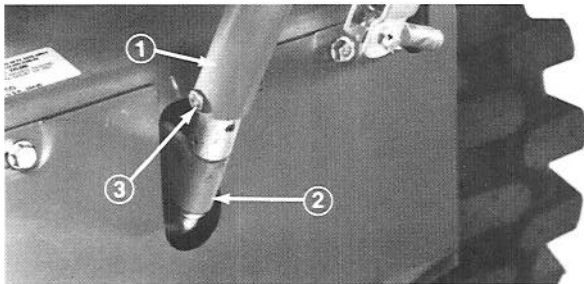
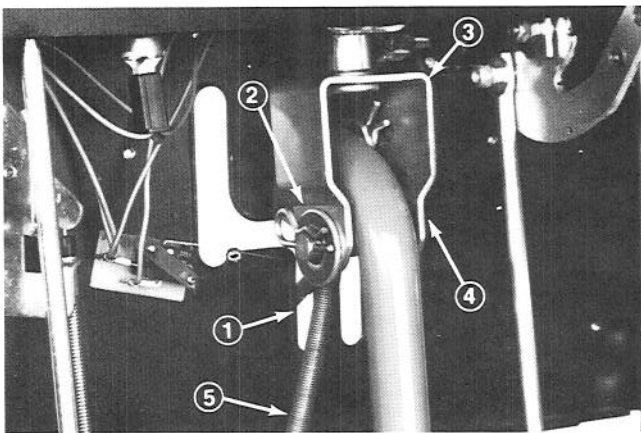
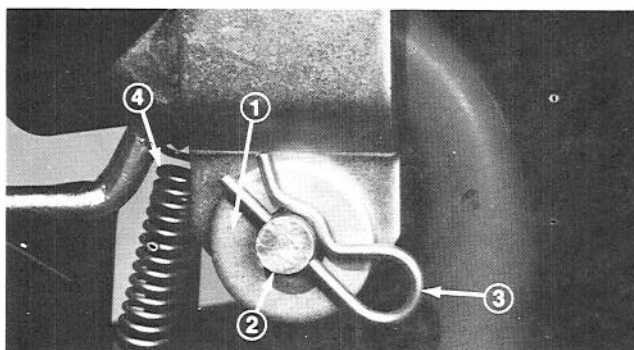

Figure 9
Figure 10
Figure 11
2. From back side, slide control rod over lower tube (Fig. 9) and wheel drive control lever through 1st gear slot in control panel (Fig. 10). Hook tension spring to hold in wheel drive control pivot. (Fig. 10). Next, line up holes in wheel drive control pivot with U-shaped pivot bracket and secure parts in place with clevis pin (Fig. 11). Head of clevis pin must be on right side of U-shaped bracket.
3. Slide flat washer onto clevis pin and hair pin cotter through clevis pin so all parts are retained in place (Fig. 11).
5. Line up holes in lower end of control rod with hole in tube at center of traction unit (Fig. 9). Secure parts together with clevis pin and cotter pin (Fig. 9).